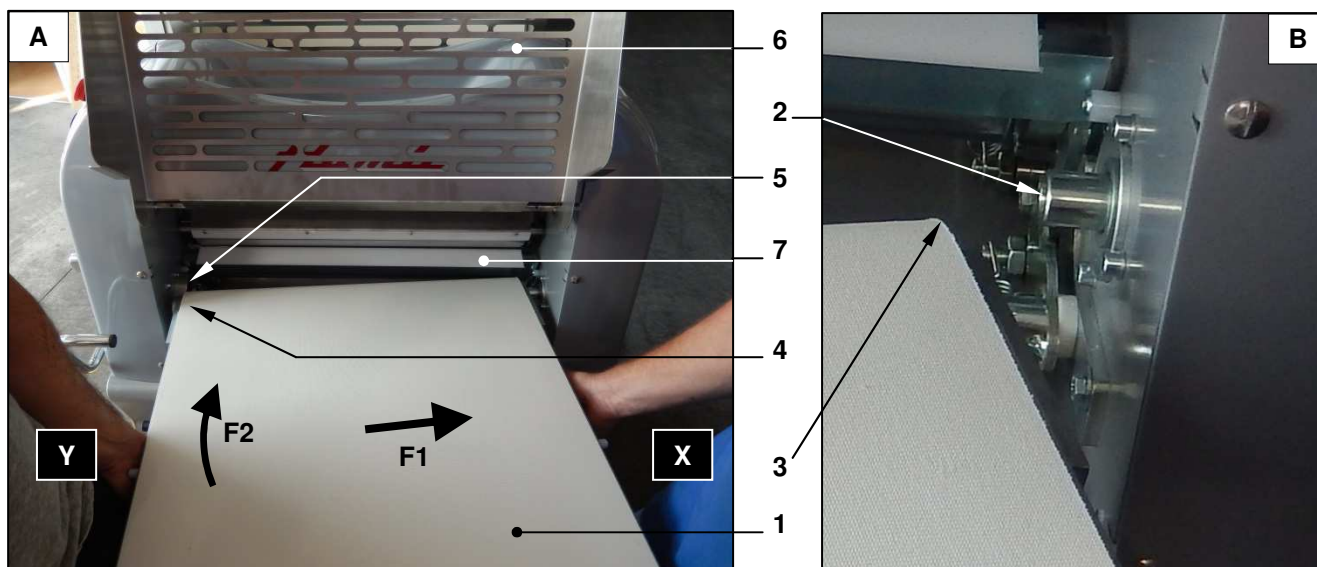

Figure 12 - Installing the benches (mod. SF600)
Wear at least the PPE indicated in section 3.4. With reference to Figure 12, raise the guard ref. 6 completely (see section 3.5.2) on the side on which the table is to be installed (photo A) and remove the scraper ref. 7 (section 4.5 and section 4.5.2.3).